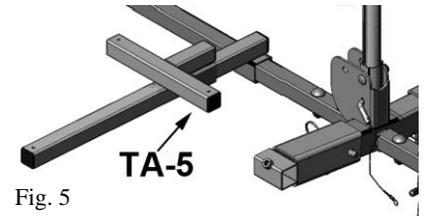

Fig. 5
Step 4: Install TA-5 on left side wheel tube, do not tighten. (Fig. 5)